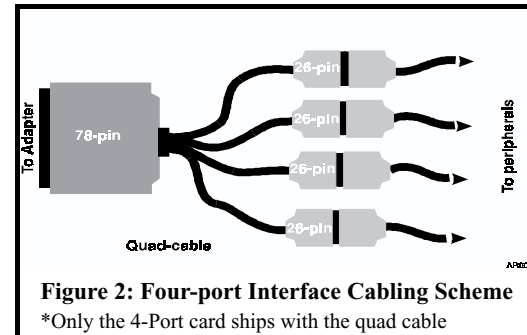

Figure 2: Four-port Interface Cabling Scheme
- Connect cables. (See Figure 2 for quad cable.)